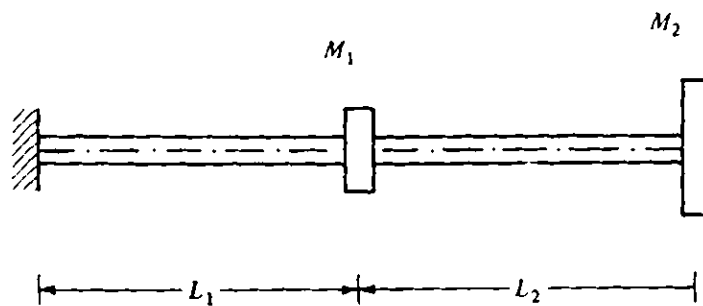

Figure 2
- (10) (e) The beam illustrated in Figure 2 has been analyzed and it has been determined that the least natural frequency is  $\omega_1$ . In the following situations, what will be the relationship between the new beam least natural frequency  $\omega_1^N$  relative to  $\omega_1$ ? Justify your answers.